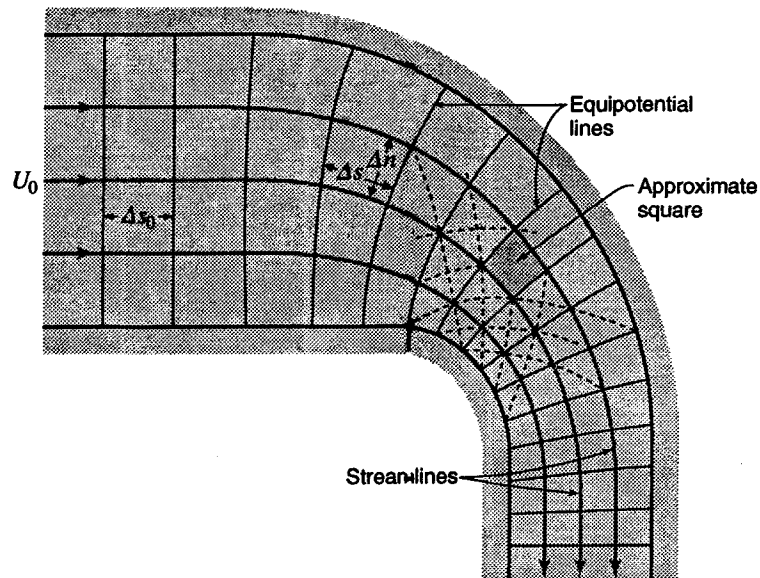

Figure 4.10
4.10.3 Given that  $U_0$  in Fig. 4.10 is 6.0 fps, find approximately (a) the maximum velocity in the bend, and (b) the uniform velocity in the downstream section.